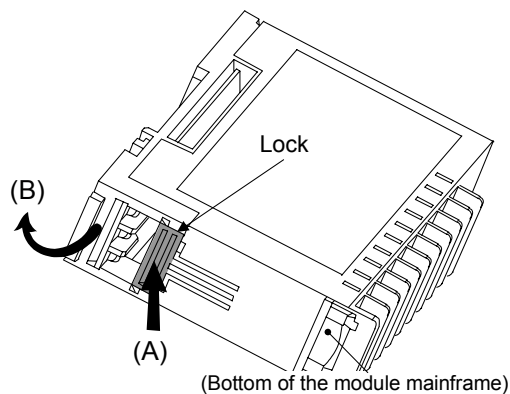

Fig. 1: Removing the base
2. Remove the base from the module (B) while the lock is pressed (A). (Fig.1)